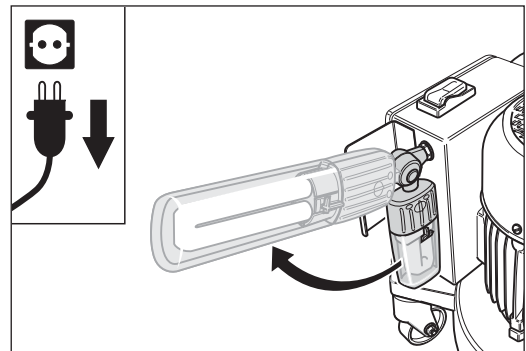

Fig. 80 Swivel the working light upward.
- 3 Swivel the working light upward (Fig. 80).